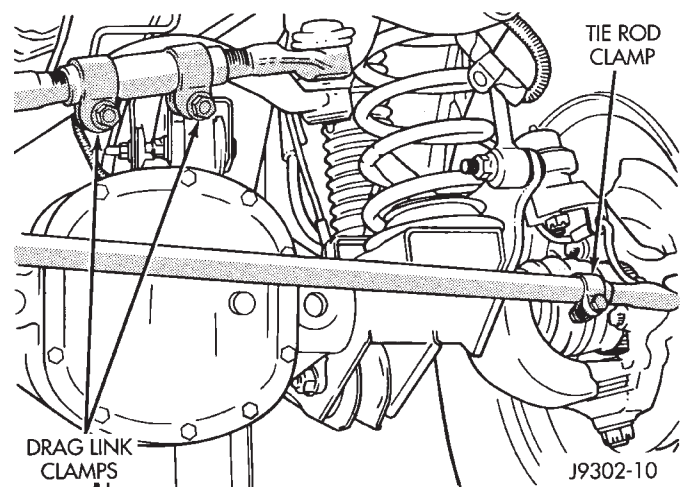
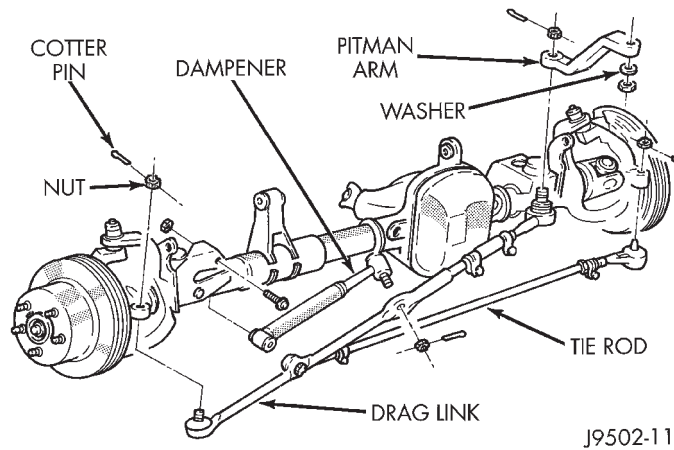

Fig. 3 Drag Link and Tie Rod Clamp
Fig. 4 Steering Linkage
(1) Start the engine and turn wheels both ways before straightening the steering wheel. Center and secure the steering wheel.
(2) Loosen the adjustment sleeve clamp bolts (Fig. 3).
(3) Adjust the right wheel toe position with the drag link (Fig. 4). Turn the sleeve until the right wheel is at the correct positive TOE-IN position. Position the clamp bolts as shown (Fig. 3) and tighten to 49 N·m (36 ft. lbs.). **Make sure the toe setting does not change during clamp tightening.**
(4) Adjust the left wheel toe position with the tie rod. Turn the sleeve until the left wheel is at the same TOE-IN position as the right wheel. Position the clamp bolts as shown (Fig. 3) and tighten to 27 N·m (20 ft. lbs.). **Make sure the toe setting does not change during clamp tightening.**
(5) Verify the right toe specifications and turn off the engine.